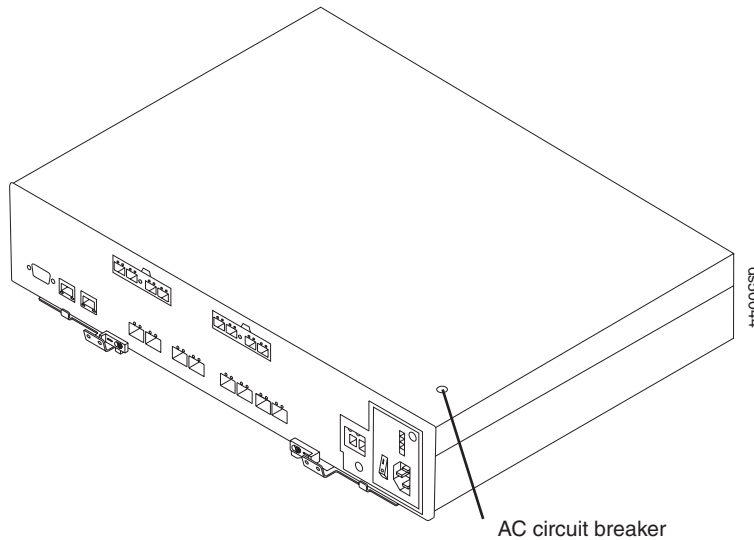

Figure 102. Circuit breaker access hole
8. Insert a nonconducting stylus through the appropriate hole in the cover of the controller and press down gently. Figure 102 shows the location of the circuit breaker access hole in the controller B cover.
Note: When controllers A and B are inserted in the controller slots, the location of the circuit breaker access hole is as follows. On controller A, the circuit breaker access hole is located on the left side on the bottom of the controller. On controller B, the circuit breaker access hole is located on the right side on the top of the controller (as shown in Figure 102).